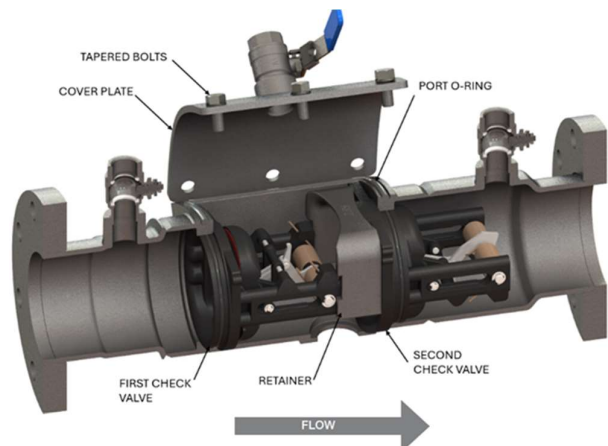

Figure 1: Primary Components of the DCV
Annual inspection of all water system safety and control valves is required. Regular inspection, testing, and cleaning ensures proper product function and maximum life of the device. Figure 1 shows the primary components in the DCV device.
Follow the following steps to inspect and service the check valves, referring to components in Figure 1. No special tools are required to disassemble and service the valve.
2. Refer to Figure 1 to ensure the correct order and orientation of the dual-action check modules before installing in the valve.